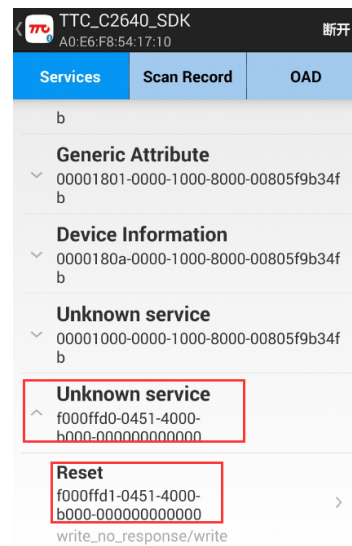

Figure 3-2-9 OAD channel
(5) find 0xf00ffd1 channel, write 01, click write, as shown in Figure 3-2-9 and 3-2-10;